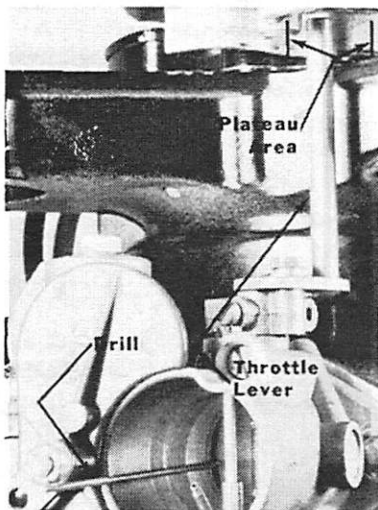

Figure 5. Checking Throttle Shutter Opening
3. Retard magneto so that throttle lever is on cam plateau (economy position). Bend throttle lever, if necessary, to obtain $.089''$ (2.2606mm) throttle shutter opening. (Opening is $.045''$ [1.1430 mm] to $.070''$ [1.7780mm] on 1965 model.) Check with No. 43 drill (No. 52 on 1965 model). (Figure 5)